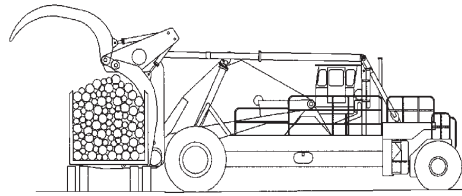

Fig. 5-6
2. Move in until the back of the carriage is against the load. Observe the location of carriage, kickoffs, and holddowns in relation to log truck. Partially clamp logs to prevent logs from rolling off. See Fig. 5-6.